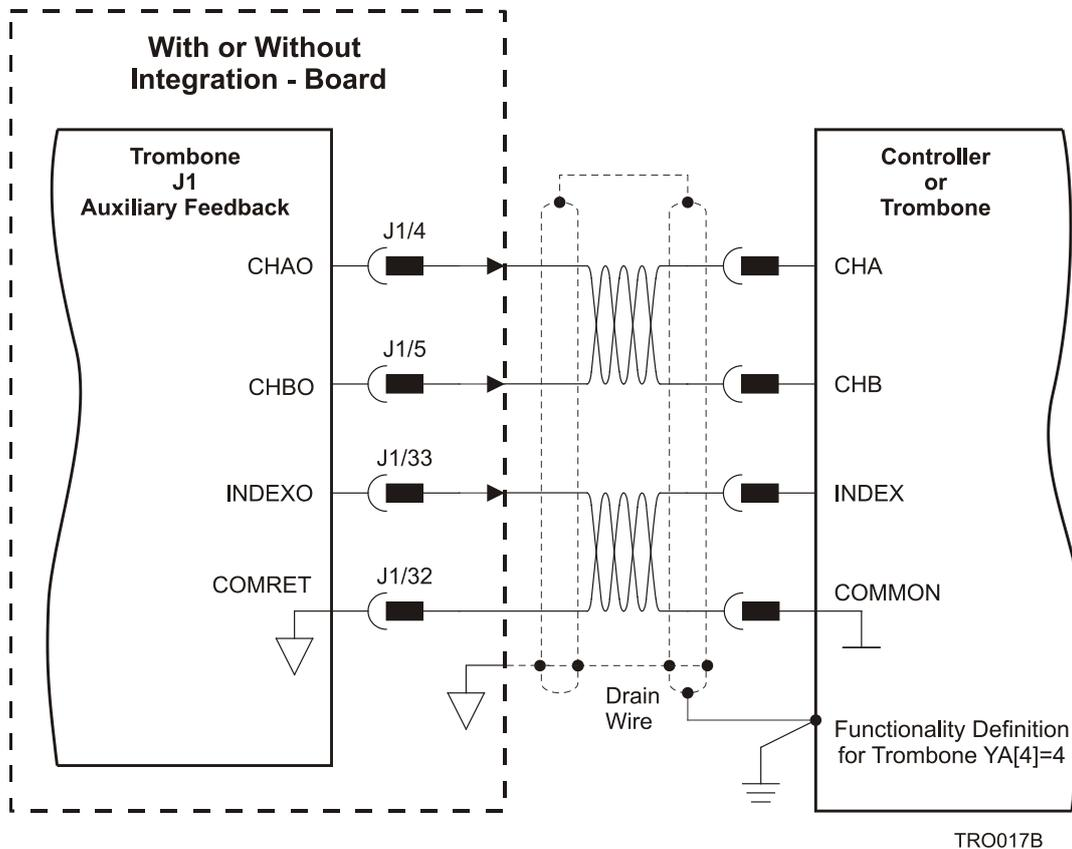
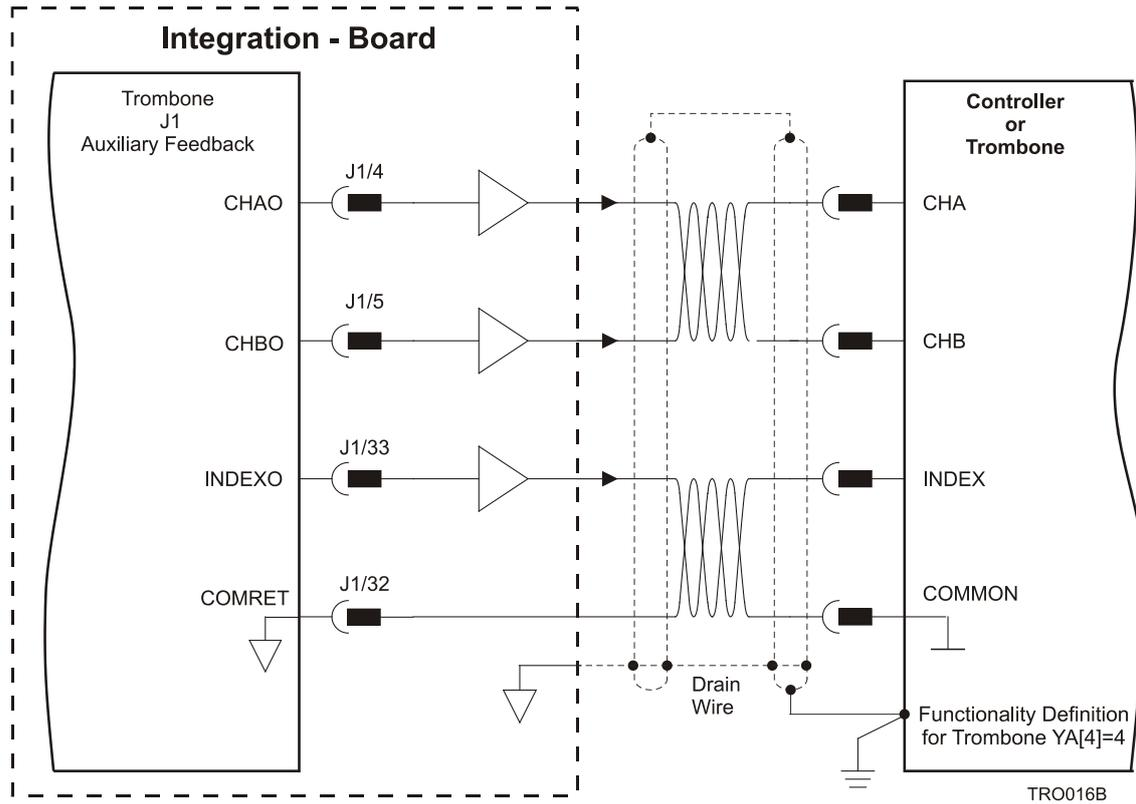
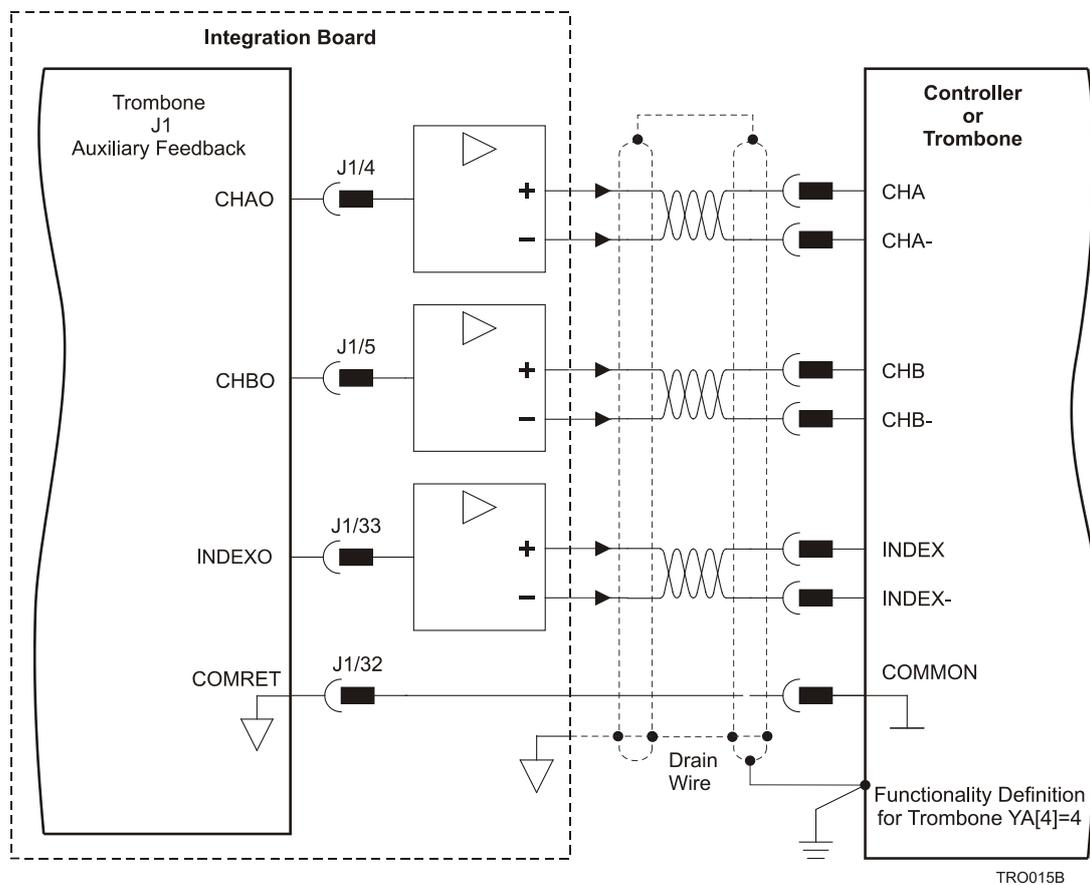

Figure 21: Emulated Encoder Direct Output – Acceptable Connection Diagram
Figure 22: Emulated Encoder Buffered Output – Recommended Connection Diagram
Figure 23: Emulated Encoder Differential Output – Highly Recommended Connection Diagram
**Note:** The Emulated Encoder Output Option (Figure 21, Figure 22 (recommended)) is only available when using a resolver, absolute encoder, analog encoder, tachometer or potentiometer as the main feedback device. The Trombone's Auxiliary Feedback is single-ended. When mounted on an integration board, circuitry can be added to make it differential (Figure 23 (highly recommended)).